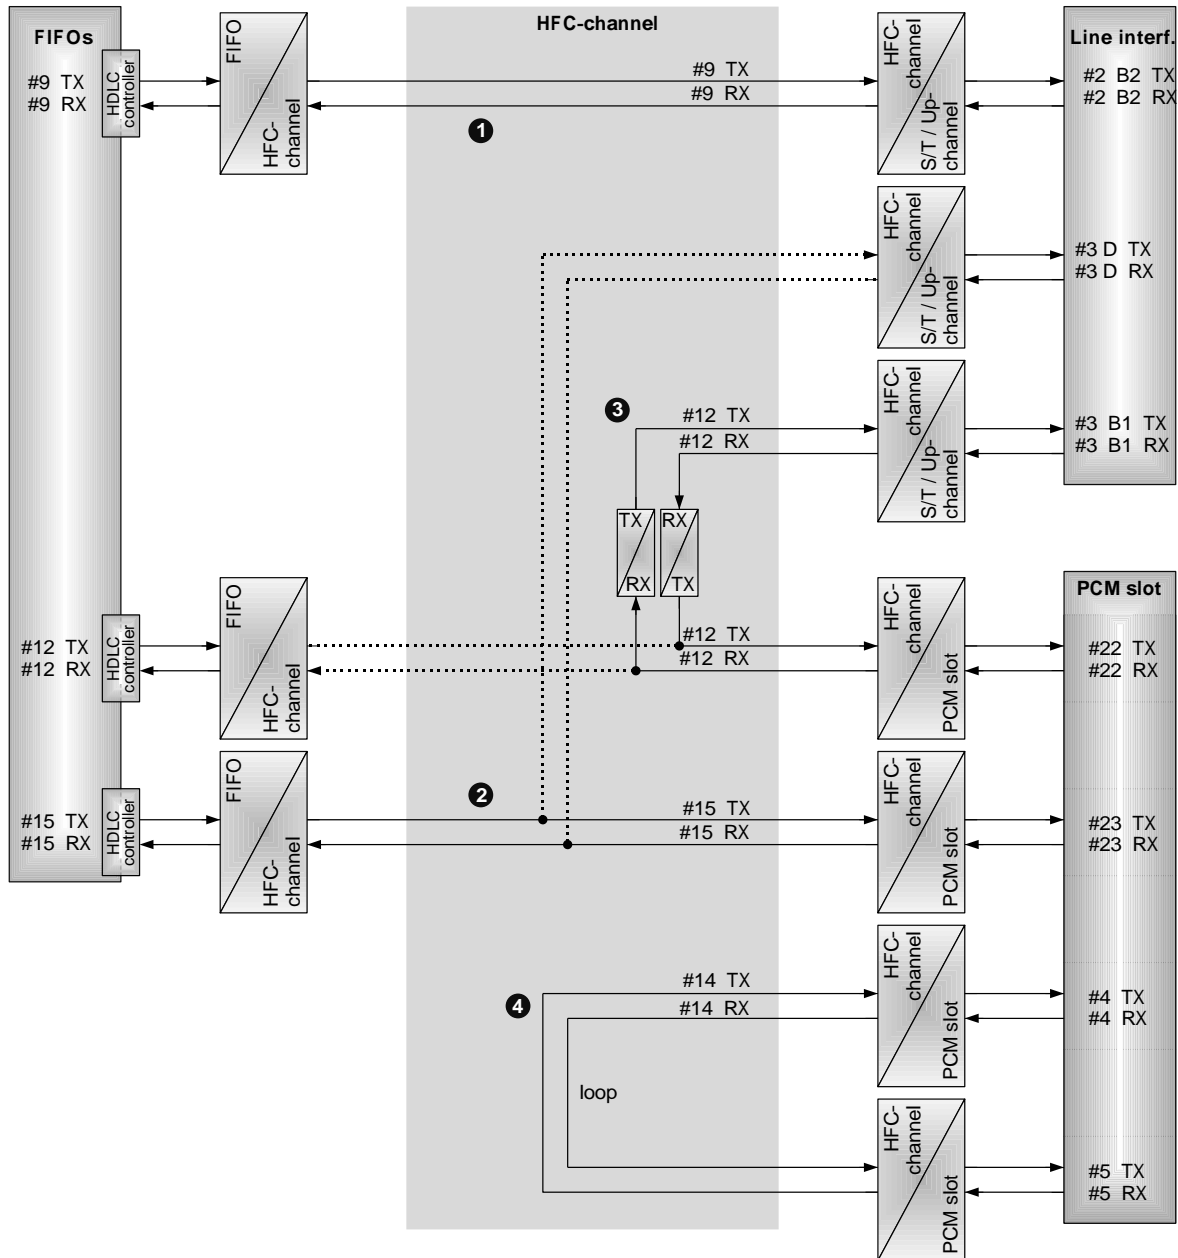

Figure 3.6: SM example
Figure 3.6 shows an example with four bidirectional connections (① FIFO-to-ST/Up, ② FIFO-to-PCM, ③ PCM-to-ST/Up and ④ PCM-to-PCM). The FIFO box on the left side contains the number and direction information of the used FIFOs. The ST/Up and PCM boxes on the right side contain the ST/Up-channels and PCM time slot numbers and directions which are used in this example. Black lines illustrate data paths, whereas dotted lines symbolize blocked resources. These are not used for the data transmission, but they are necessary to enable the settings.
All settings in Figure 3.6 are configured in bidirectional data paths due to typical applications of XHFC-2S4U/4SU. However, transmit and receive directions are independent from each other and could occur one at a time as well.